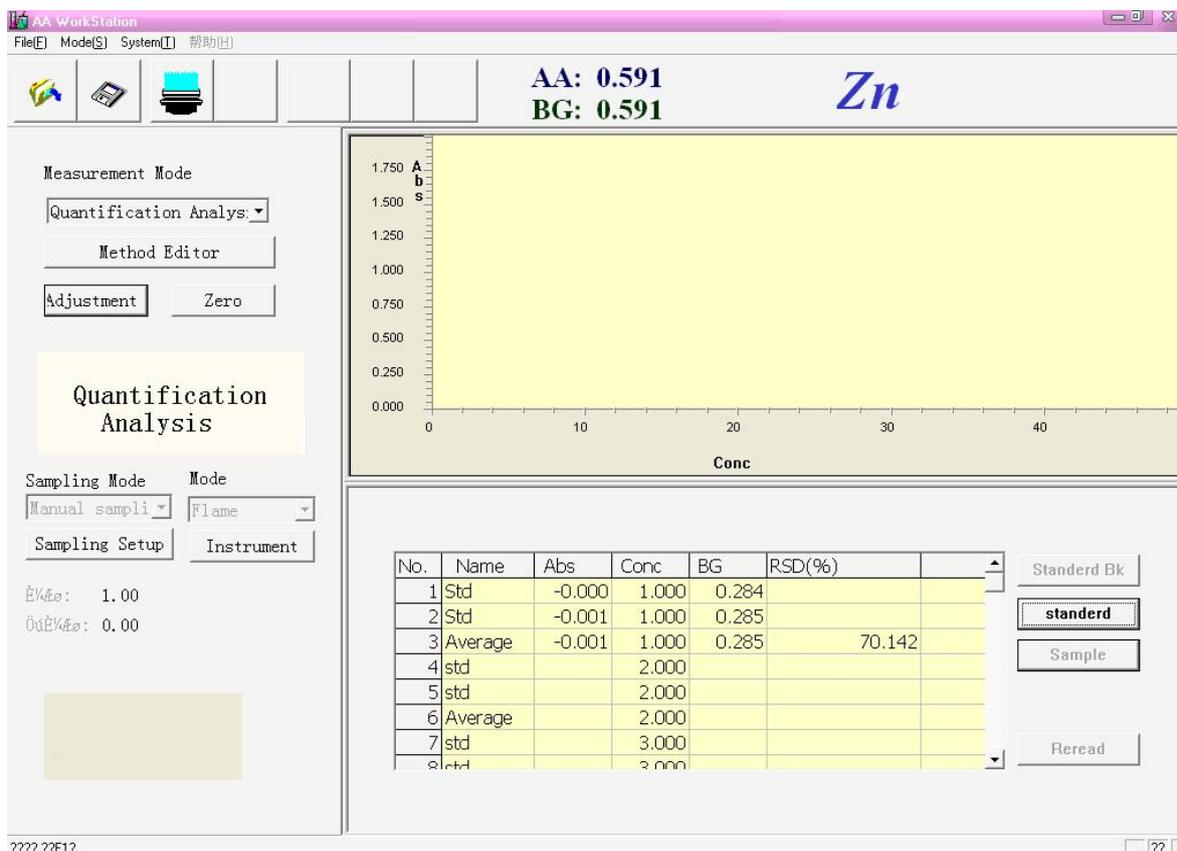

Figure 6-10
11. Spurt and absorb the standard sample 1 again,press **【Standard】** ,display the figure 6-10